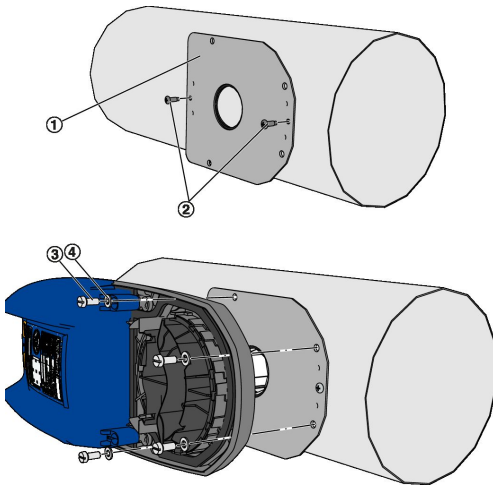

Fig. 14: RM-O-M Installation in round air duct
3. ▶ Fasten the mounting bracket (Fig. 14/1) to the air duct with 2 screws or rivets (Fig. 14/2).
5. ▶ Secure the smoke detector to the bracket (Fig. 14/1) with screws M5 x 12 (Fig. 14/3) and washers (Fig. 14/4).